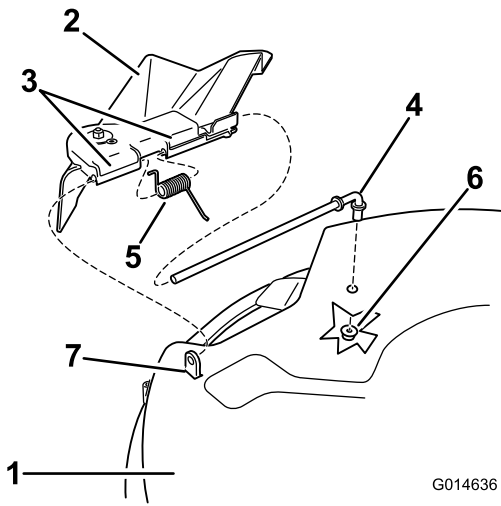

Figure 54
1. Locate items shown in Figure 54.
2. Remove the nut (3/8 inch) from the rod under the mower (Figure 54).
3. Slide the rod out of the short stand-off, spring, and grass deflector (Figure 54).
5. Replace the grass deflector (Figure 54).
7. Place the spring on the rod, with end wires down, and between the grass deflector brackets. Slide rod through second grass deflector bracket (Figure 54).
9. Secure rear end of rod into the mower with a nut (3/8 inch) as shown in Figure 54.